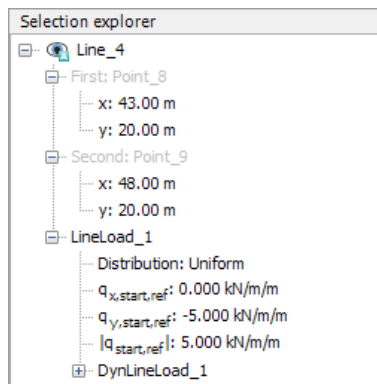

Figure 2.6 Components of the distributed load in the *Selection explorer*
- In the *Selection explorer* assign a value of -5 kN/m/m to the y-component of the load ( $q_{y,start,ref}$ ) (Figure 2.6).